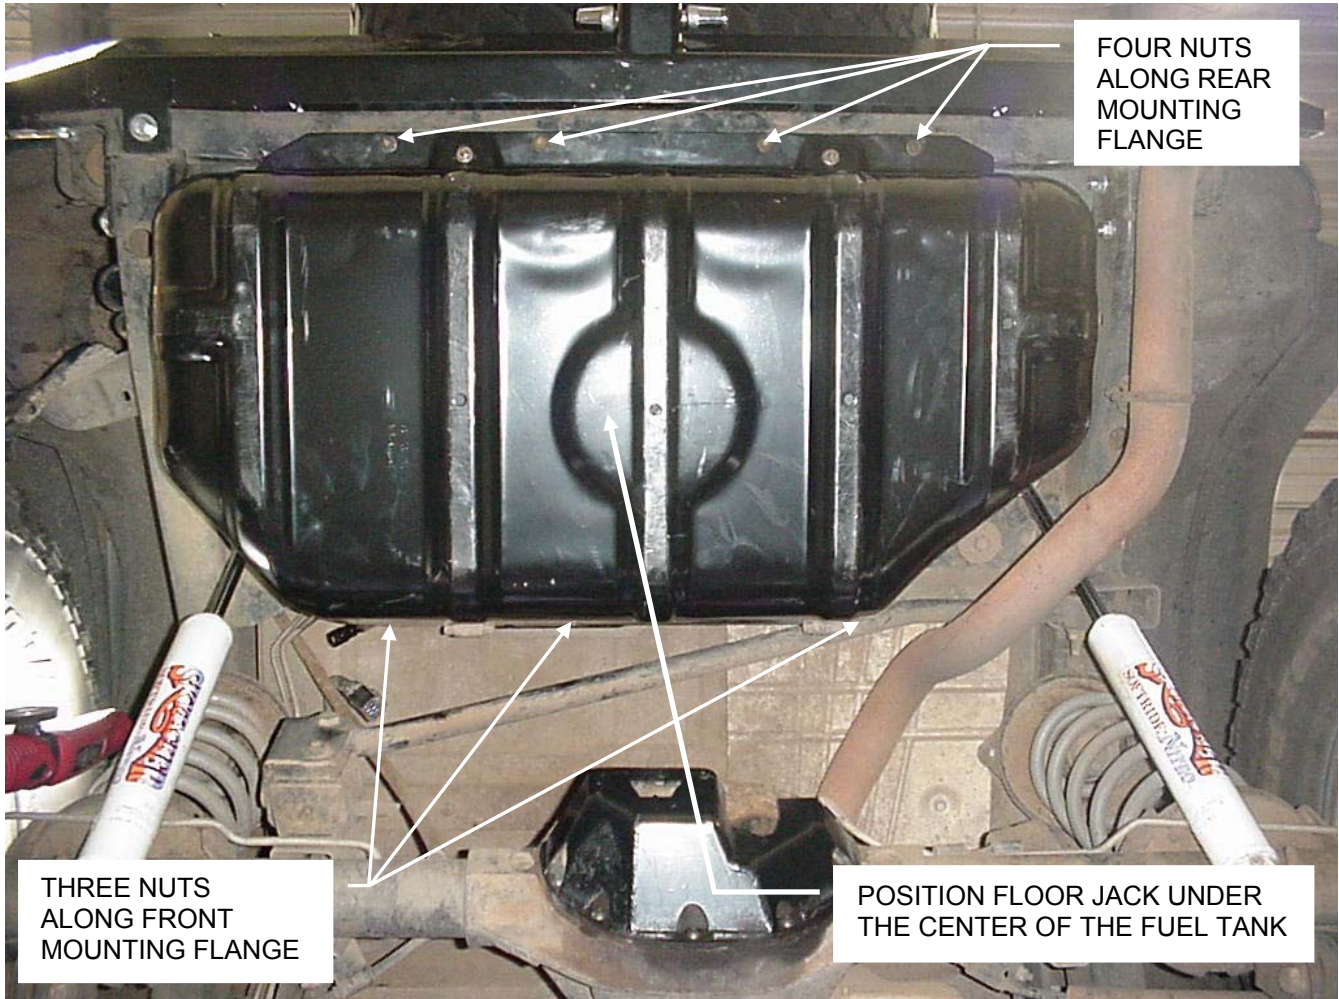

Figure 5: Location of seven mounting nuts
8. Position a floor jack under the center of the factory skid plate to hold it in place while removing the nuts. Remove the 7 nuts, four along the back mounting flange and three along the front mounting flange, holding the skid plate and tank in place. Do not remove the nuts holding the metal straps to the tank until it is removed from the vehicle. See **Figure 5**.